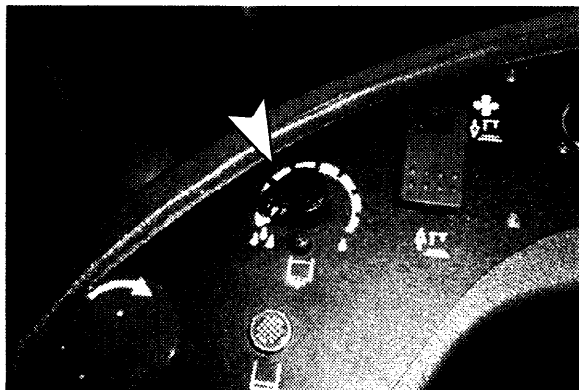

Figure 17
5. Turn solution control knob to maximum flow when starting out. Then adjust to a desired flow rate after scrubbing speed is determined (Fig. 17).